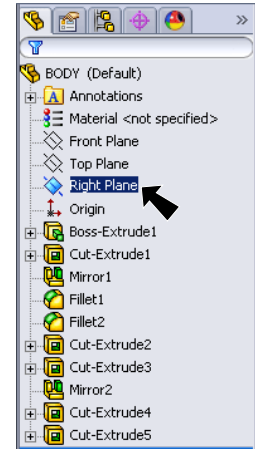

Fig. 70
Step 2. Click **Right Plane**  in the Feature Manager to select Plane, **Fig. 70**.
Step 5. Click **Right Plane**  in the Feature Manager to select Plane, **Fig. 70**.